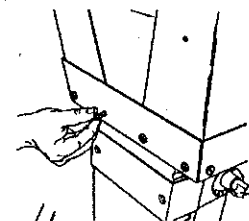

Fig.A-8
11. Thread a screw (2) through the Power Station base (11), leg (5) and the belt and pulley guard (8) on each of the two end inside holes. Finger tighten the screws. See Fig.A-8.